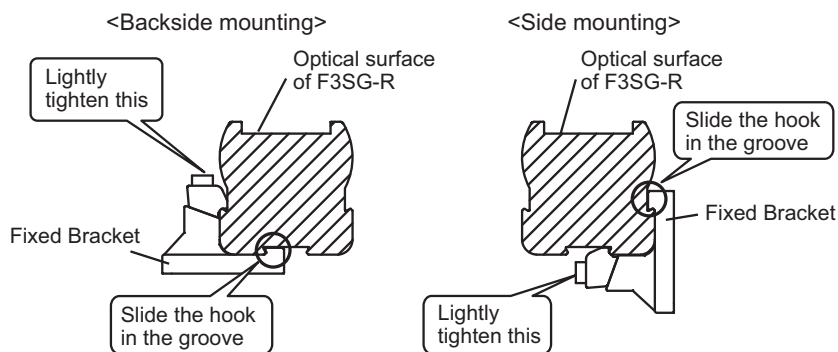

Fig. 2
#### 2. Slide the hook of the Fixed Bracket (1) in the groove of the F3SG-R housing. Lightly tighten the hexagon socket head cap screw (M3 x 15). (Fig. 2)